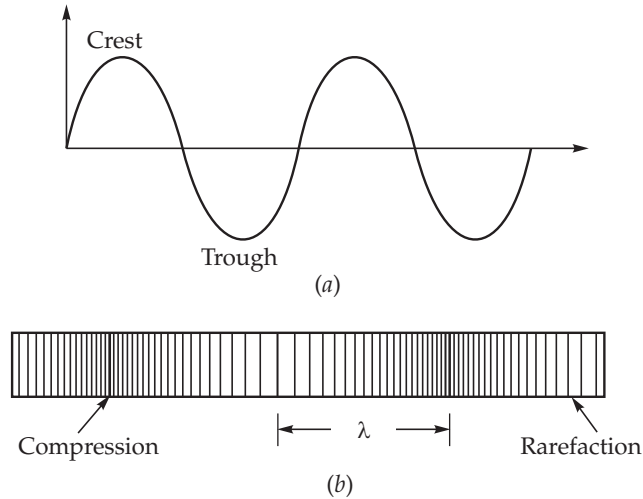

Fig. 1.8
(2) **Longitudinal Waves.** In these waves, the particles of the medium vibrate parallel to the direction of propagation of waves. See Fig. 1.8 (a).
The distance between two adjacent crests or troughs (or compressions and rarefaction) is called *wavelength* (λ) [Fig. 1.8 (b)].